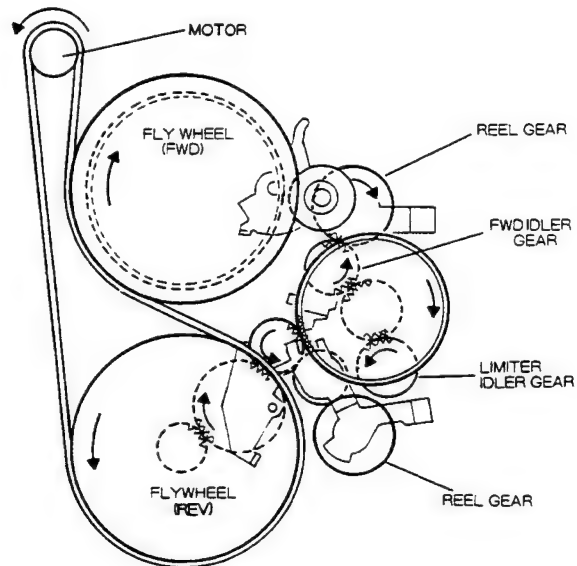

Fig. 17
- (1) FWD play is obtained when the REV idler gear is released from the limiter idler gear. (Fig. 17)